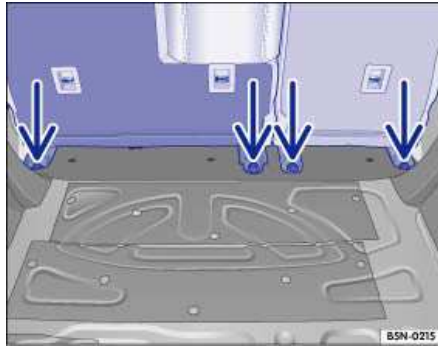

Fig. 101 Rear attachment of the rear seat.
12. Remove all hexagonal nuts ⇒ fig. 101 (arrows) in the luggage compartment using the lug wrench.
10. Tighten the hexagonal nuts in the luggage compartment ⇒ fig. 101 (arrows) to 44 ft-lbs (60 Nm) using a torque wrench. If no torque wrench is available, tighten the hexagonal nuts using the lug wrench and have the torque checked at a qualified workshop as soon as possible.